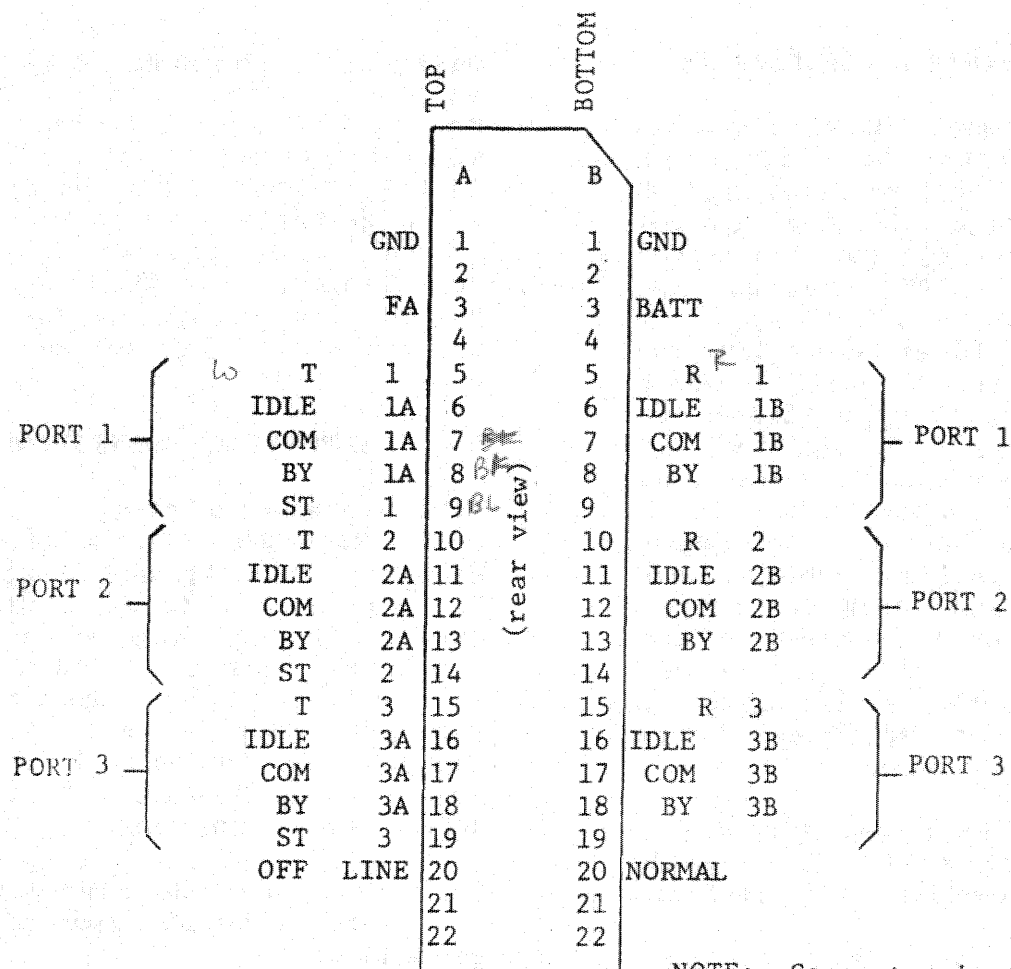

Figure 1. Connector Pins
5.01 Connections to the Recorded Announcer are made via the backplane connector. This connector is an integral part of the Card Cage and should remain fastened to the card cage at all times. The connector has wire wrap pins for all connections. Refer to Figure 1 for all cable connections. TABLE 4 defines each connection.